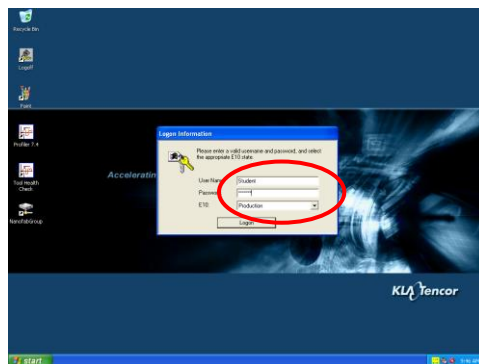

Fig. 4.1.2
4.1.2. When it asks for a password enter the word "student" in lower case letters. See the RED Circle in Fig. 4.1.2 .